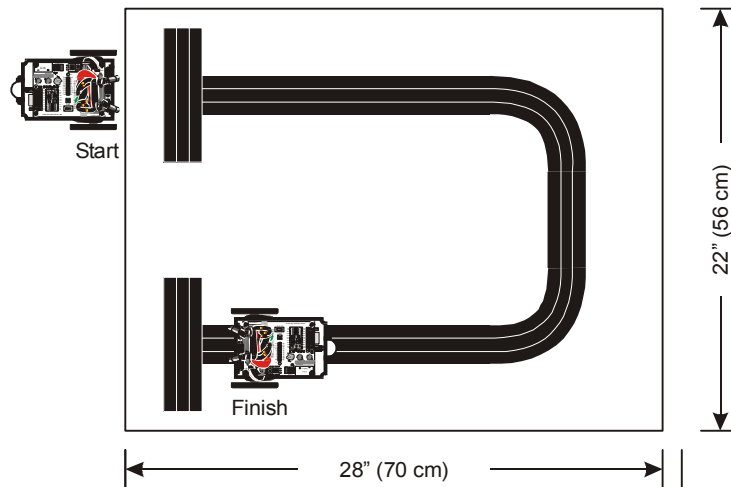

Figure 8-13
- ✓ Place your Boe-Bot at the “Start” location shown in Figure 8-13. The Boe-Bot should wait there until you place your hand in front of its IR pairs. It will then